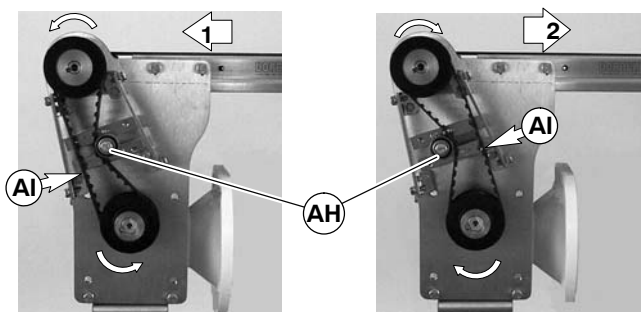

Figure 8
2. Depending on conveyor belt travel (direction 1 or 2 of Figure 8), locate timing belt tensioner (AH), as shown. Do not tighten tensioner screw.
5. Tension timing belt to obtain 1/8" (3 mm) deflection for 1 lb (4.3 N) of force at timing belt mid-point (AI of Figure 8). Tighten tensioner screw to 38 ft-lb (51 Nm).